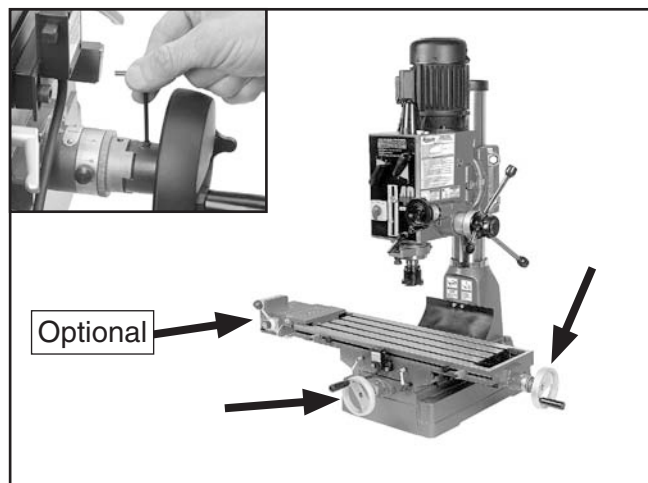

Figure 19. Handwheel installation.
13. Secure one handwheel in each of the locations shown in **Figure 19** by sliding the handwheel onto the leadscrew and tightening the set screw.